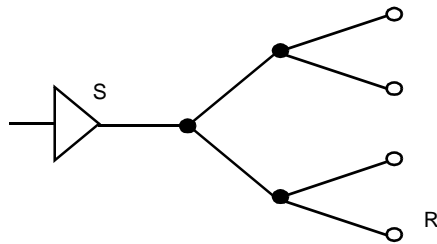

Figure 0.1 Clock-distribution network.
1. [M, None, 4.x] Figure 0.1 shows a clock-distribution network. Each segment of the clock network (between the nodes) is 5 mm long, 3 μm wide, and is implemented in polysilicon. At each of the terminal nodes (such as R) resides a load capacitance of 100 fF.